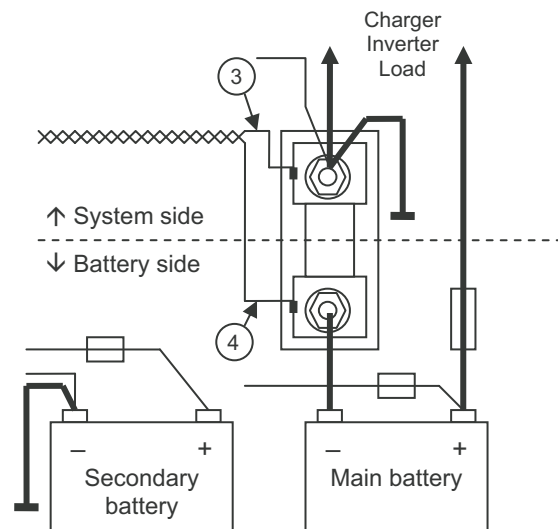

Figure 3
and 50mV) Therefore reliable connections are essential. Prevent connections and wiring from corrosion. Pay attention to the correct connections (3 and 4) of the system side and the battery side (see figure 3). The maximum length of this cable must not exceed 25 meters / 80 ft.
11. Connect the minus wire of the system to the system side (see figure 3) of the shunt.
12. Make a connection between the minus of the secondary (starter) battery and the system side (figure 3) of the shunt.
13. Connect the battery side of the shunt (figure 3) to the minus terminal of the main battery.